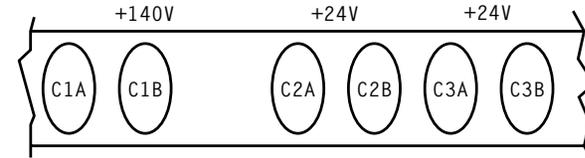

Figure 1 - Example of Capacitors DIF Bay (Front View)
- [3] See FIGURES 1 and 2. Locate and mark leads of +140V capacitors associated with controller and DIUs being repaired (C1As=DIU 0 and all odd DIUs-C1Bs=DIU 33, and all Even DIUs)